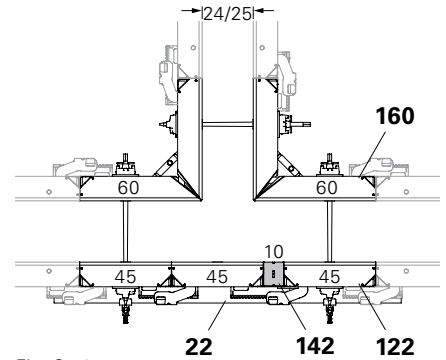

Fig. C5.04
- Wall thickness 24/25: A Fig. C5.04